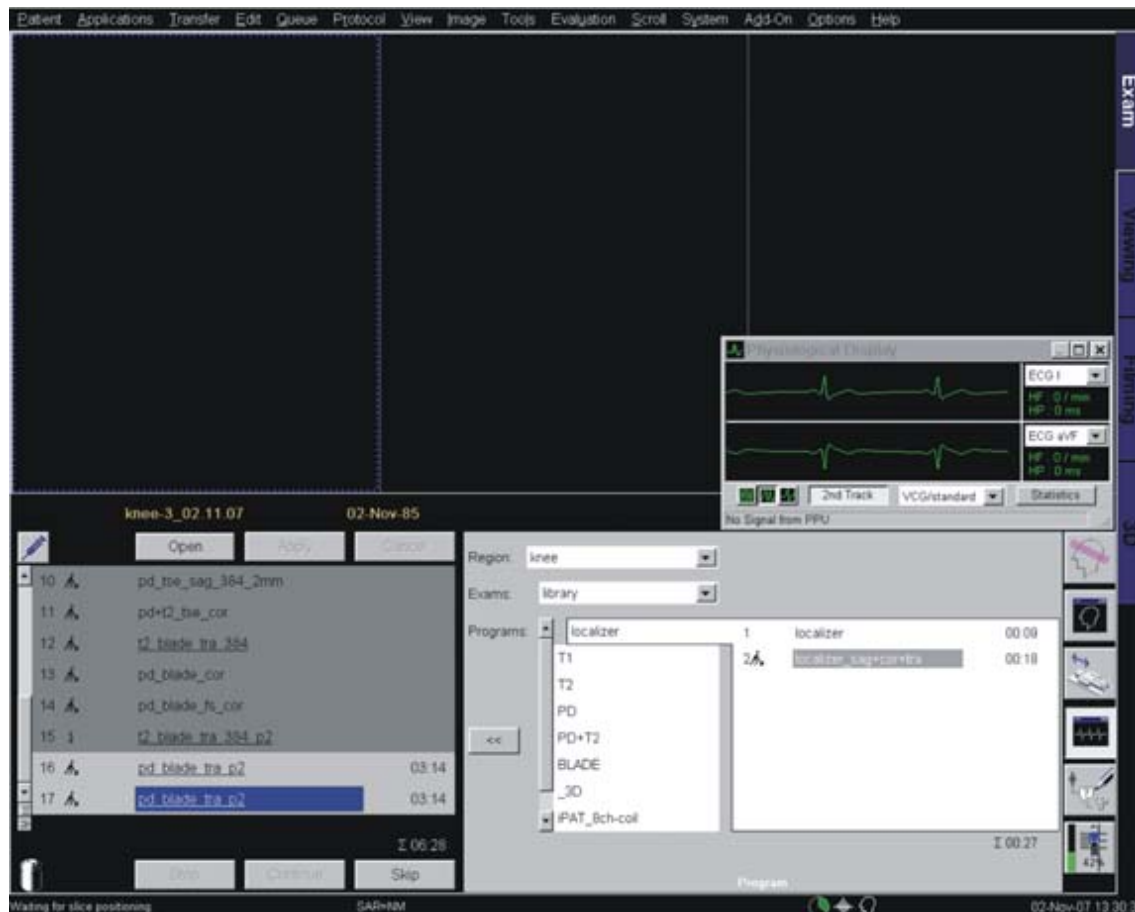

Fig. 15: "Waiting for trigger pulse" screenshot
7. If the PERU is connected to the attached electrodes **after** the patient table has been already moved into the magnet **beyond the learning range**, no triggers can be generated by the VCG algorithm due to the lack of learning data and therefore the **red trigger triangles** in the Physio Display are **missing** - see (Fig. 15 / p. 22) and "waiting for trigger pulse" is reported, when a protocol is run: